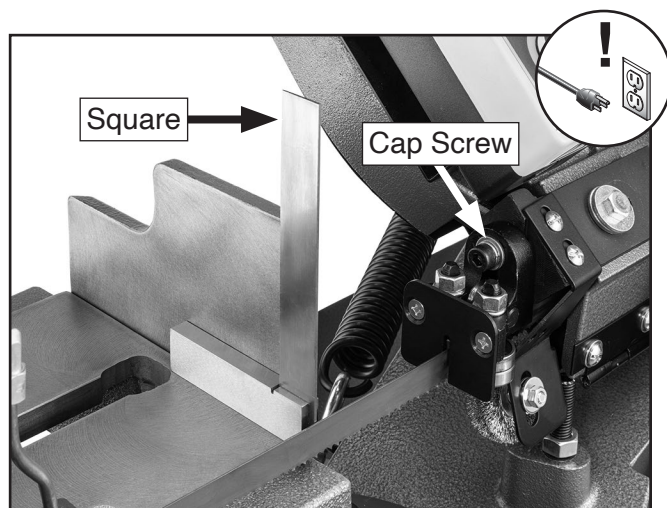

Figure 79. Squaring blade (rear blade guide shown).
3. Place square on table and against edge of blade (see **Figure 79**), checking different points along table between blade guides.
4. Loosen cap screw shown in **Figure 79** on blade guide assembly that needs adjustment, and rotate blade guide until blade is vertical to bed.